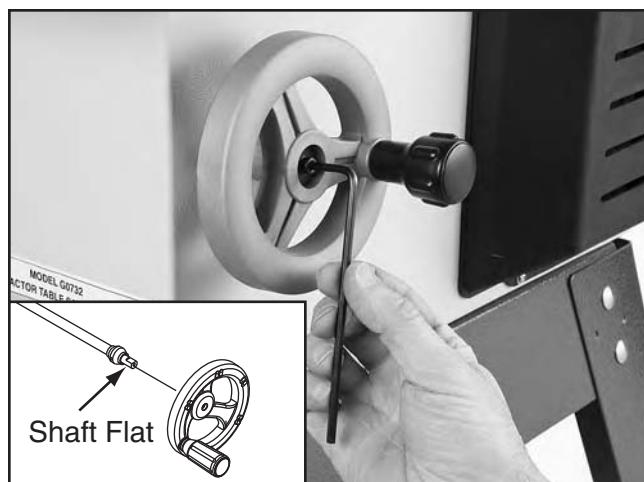

Figure 17. Securing blade tilt handwheel.
12. Slide the flat of the blade tilt handwheel onto the flat of the blade tilt shaft, then secure, as shown in **Figure 17**.